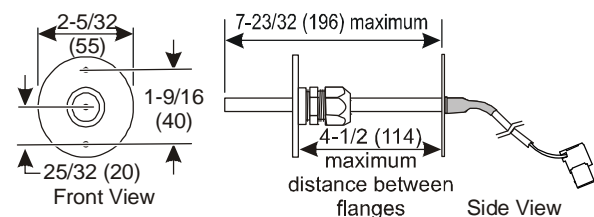

Figure 1: Sensor Dimensions, in. (mm)
3. Insert probe to the desired length, observing the limit specified in Figure 1.